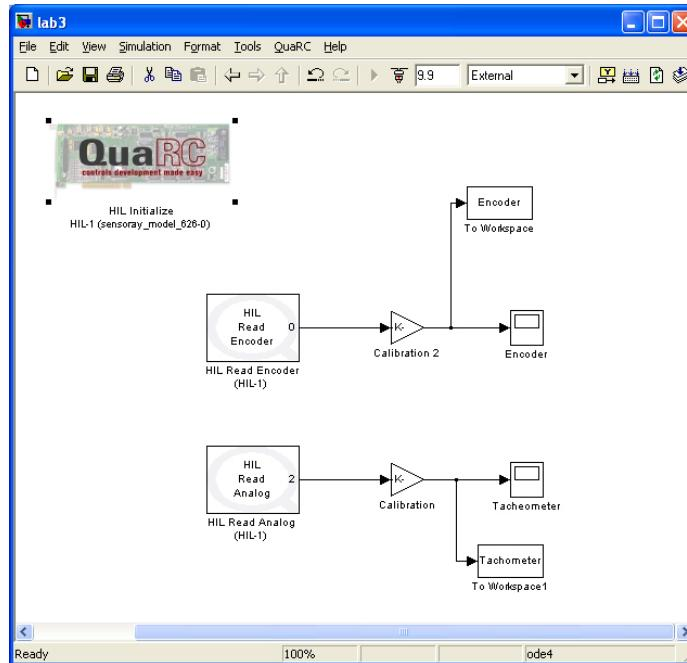

Figure 5.4: Another Simulink model for Lab 5
7. You will now introduce an impulse into the real system by providing a “jolt” by hand. This can be done by tapping the gear. Prepare the Simulink model shown in Figure 5.4. Note that there is no **Write Analog** block required in this case since you are providing